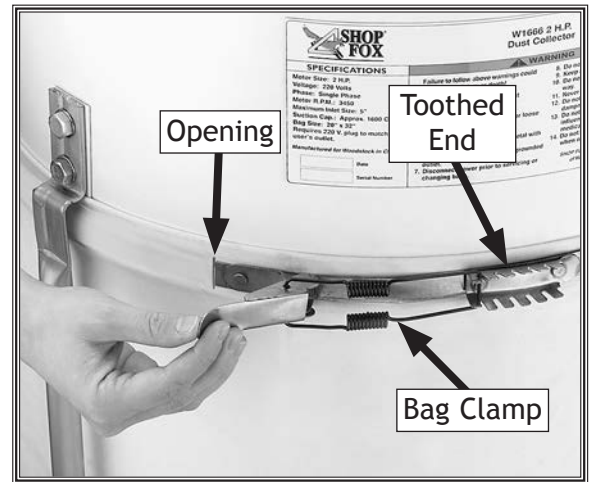

Figure 15. Securing bag to separator.
12. Insert toothed-end of each bag clamp into opening of bag rim, then slide it completely around rim cavity to meet other end (see **Figure 15**).
13. Hang upper bag, as shown in **Figure 16**, and attach bag rim to the separator in the manner shown in **Figure 15**.